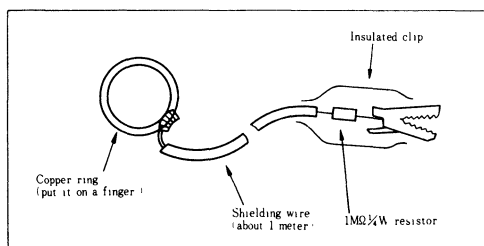

Fig. 1
(2) Ground operator in handling memories for inspection or connection as shown in Fig. 1. Insert a 1M ohm resistor to protect operator against an electric shock.
(3) Control the ambient relative humidity at about 50%.
(4) Wear cotton clothes instead of the ones made of synthetic fabrics.
(5) Ground tips of soldering iron, which is preferable the one operates at low voltage.
(6) Pack with conductive mats in shipping IC memories mounted on the circuit board.